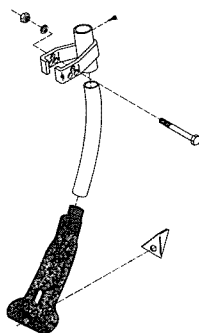

Figure 2A
- 2A) This cast boot (Figure 2A), can be used for 8" or 9" spacing on field cultivator shanks. The seed is placed in a general broadcast pattern with little or no row definition.